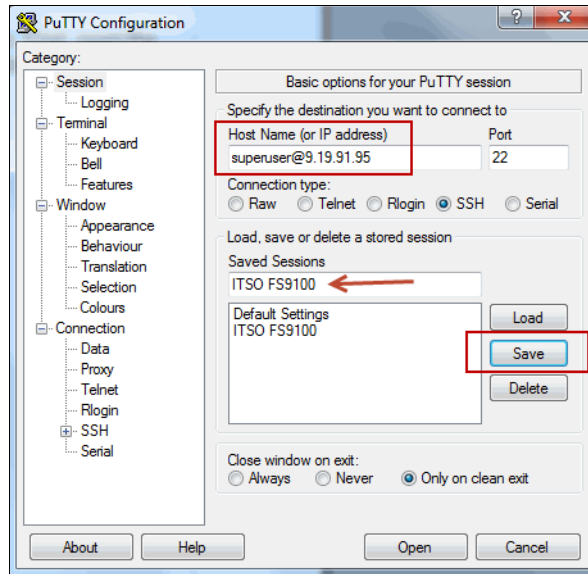

Figure 8-10 Add user name and system name to PuTTY session
2. Provide a name in the Saved Sessions then click Save. See sample shown in Figure 8-10 on page 317.